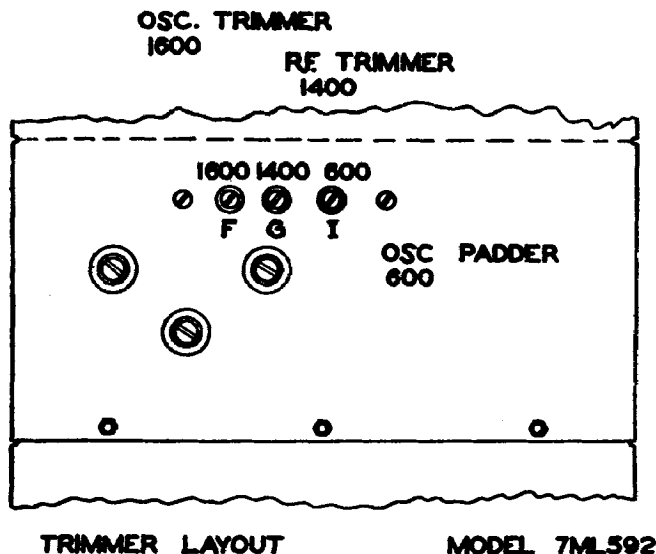
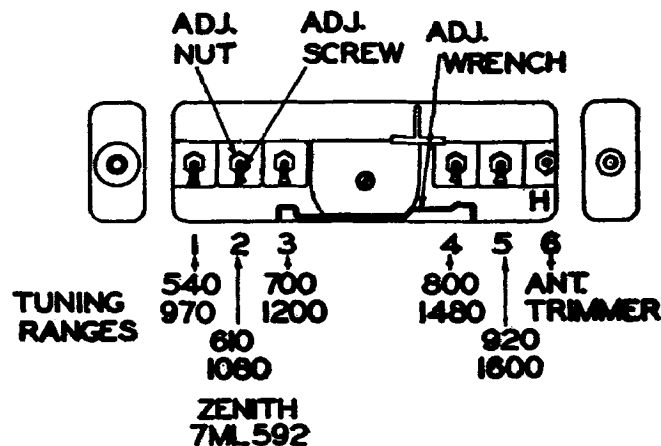

FIG. 4
FIG. 5
4. Adjust the 1600 K.C. oscillator trimmer F (see Fig. 4) for maximum response.
6. Adjust the R.F. trimmer G (see Fig. 4) and the antenna trimmer H (see Fig 5) for maximum response.
8. The condenser gang is then rocked slightly while adjusting the 600 K.C. padder I (see Fig. 4) for maximum response.
The tuning range is shown below each adjustment number (see Fig. 5).
3. Adjust the No. 1 screw (see Fig. 5) with the wrench provided until the desired station is tuned to the loudest point.
4. Adjust No. 1 nut (see Fig. 5) for maximum signal.